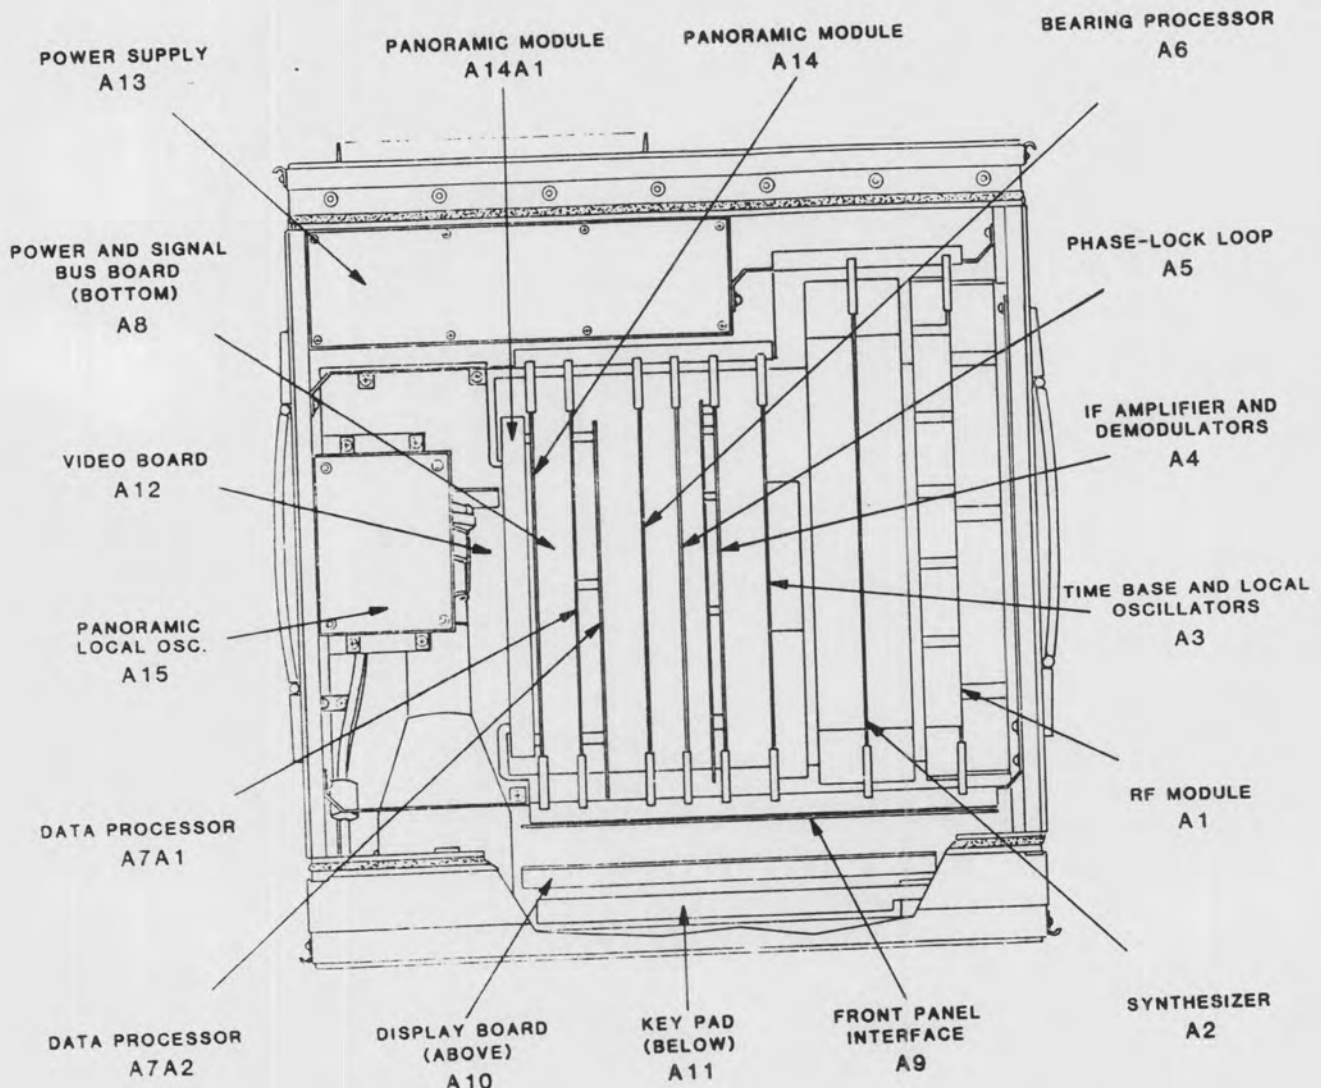

Figure 4-13. Assembly Location, Receiver
4.4.1 Chassis. For the most part, the assemblies consist of boards (A1-A7 and A14) that are plugged into the Power and Signal Bus Board (A8) on the bottom of the receiver chassis. The Video Amplifier Board (A12) is next to A8. Boards A9-A11 and A14 are mounted vertically and the Power Supply Board (A13) is mounted inside of a shielded module. The Panoramic Oscillator (A15) is mounted above A12. The assemblies are shown in figure 4-13.